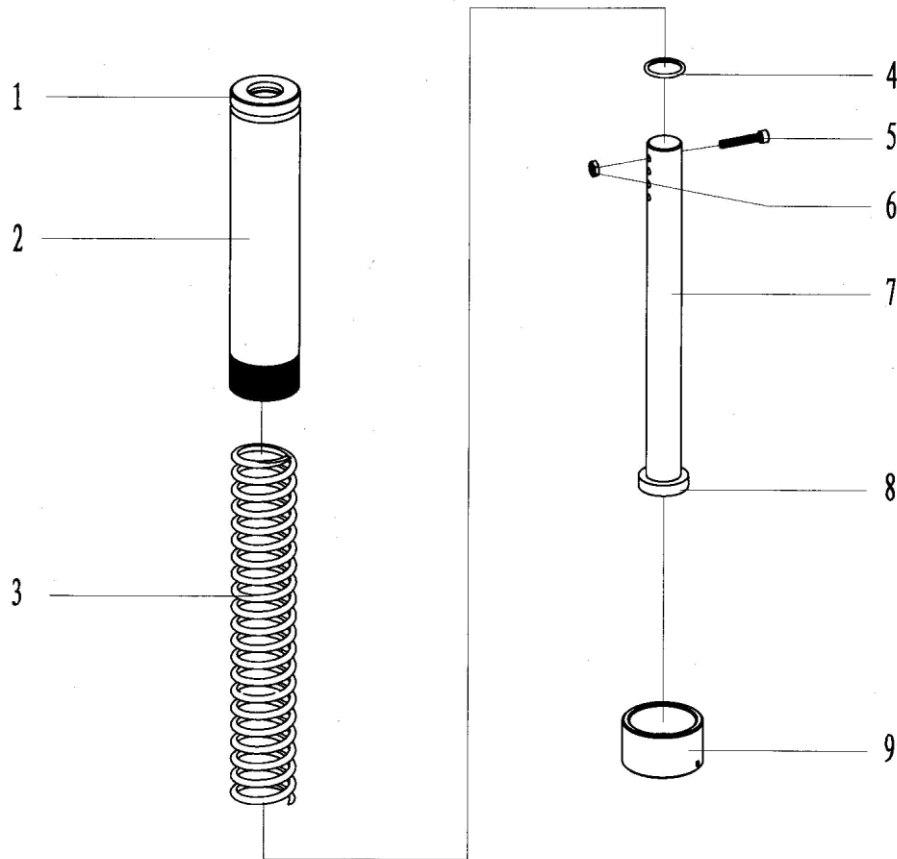

Fig.30
11.13 Front guide pole assembly and parts list (Fig.30, Table 17)